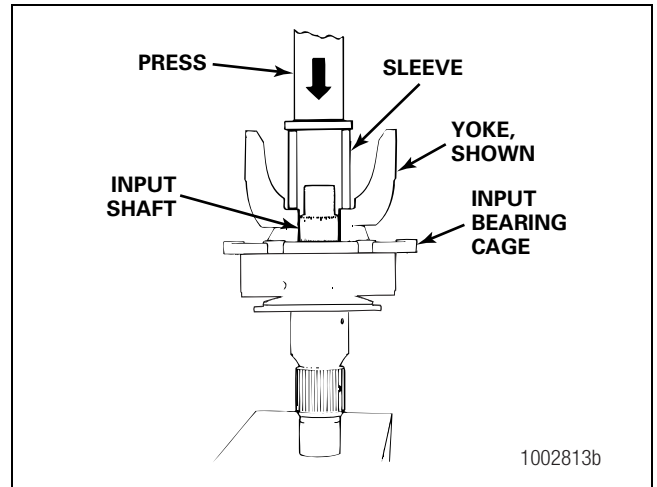

Figure 5.73
7. Use a press and sleeve or an installation tool to install the yoke or the flange onto the input shaft. If a press and sleeve are used, verify that the input shaft is well supported. Figure 5.73.